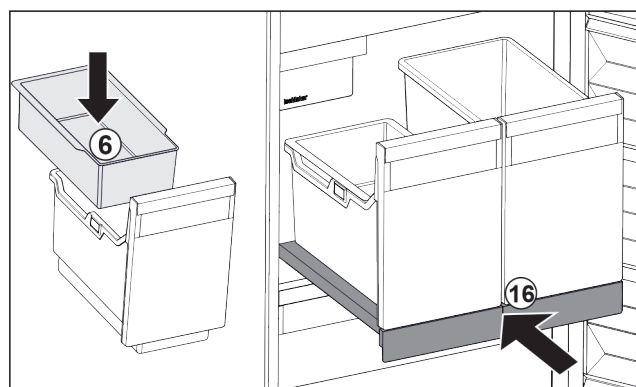

Fig. 38
- Insert hang-on tray Fig. 38 (6) for ice cubes.
- Slide in the pull-out board with container (IceTower). Fig. 38 (16)